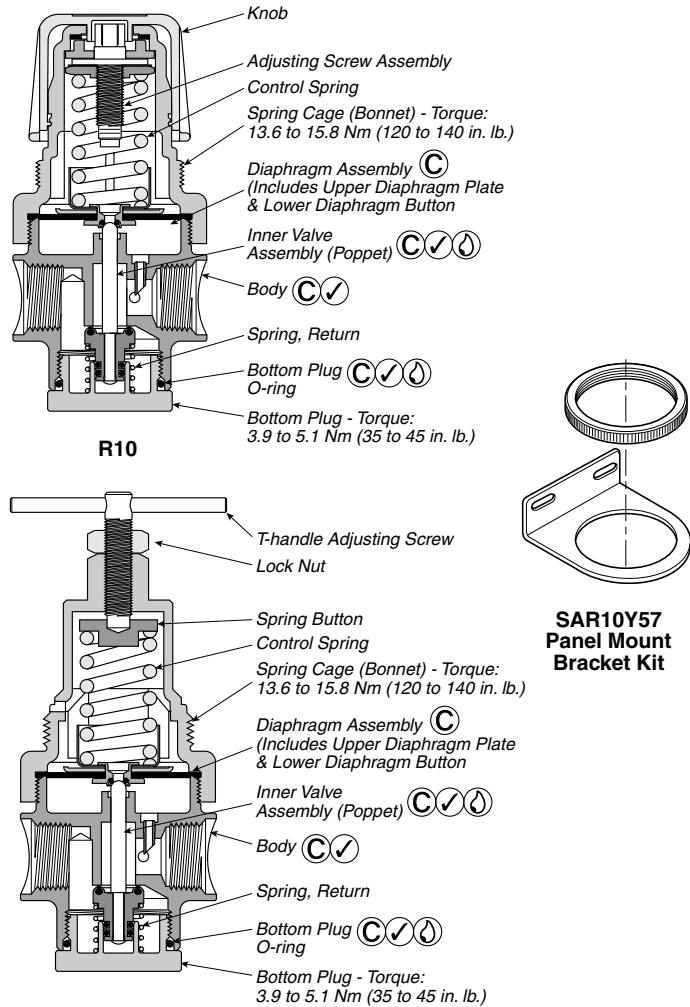

Figure 1
- ④ Lightly grease with provided lubricant.
**Servicing Regulator - (Refer to Figure 1)**